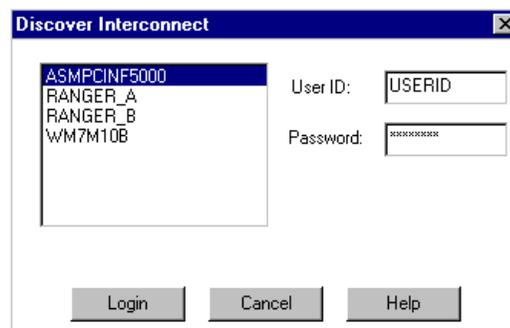

Figure 65. Discover Interconnect
3. Click the **Discover** button. Figure 65 appears: